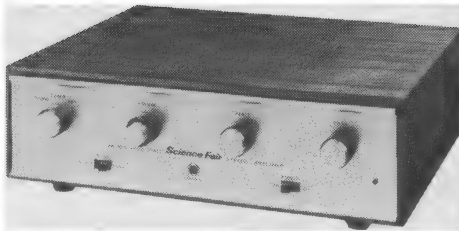

Fig. 2-4. Modern solid-state amplifier.
Most hi-fi amplifiers on the market are either stereo or quadraphonic types since mono hi-fi systems are now considered almost obsolete. A stereo amplifier actually consists of two mono amplifiers within the same assembly. Fig. 2-2 is a block diagram of the amplifier shown in Fig. 2-4. A quadraphonic amplifier may consist of four separate amplifiers or two amplifiers and a quadraphonic synthesizer.
Older hi-fi amplifiers employ electron tubes, whereas nearly all modern amplifiers (Fig. 2-4) are *solid-state* types which employ transistors and integrated circuits in lieu of tubes. An integrated circuit (IC) is a small, single module (circuit package) which may contain many transistors, diodes, resistors, and capacitors.